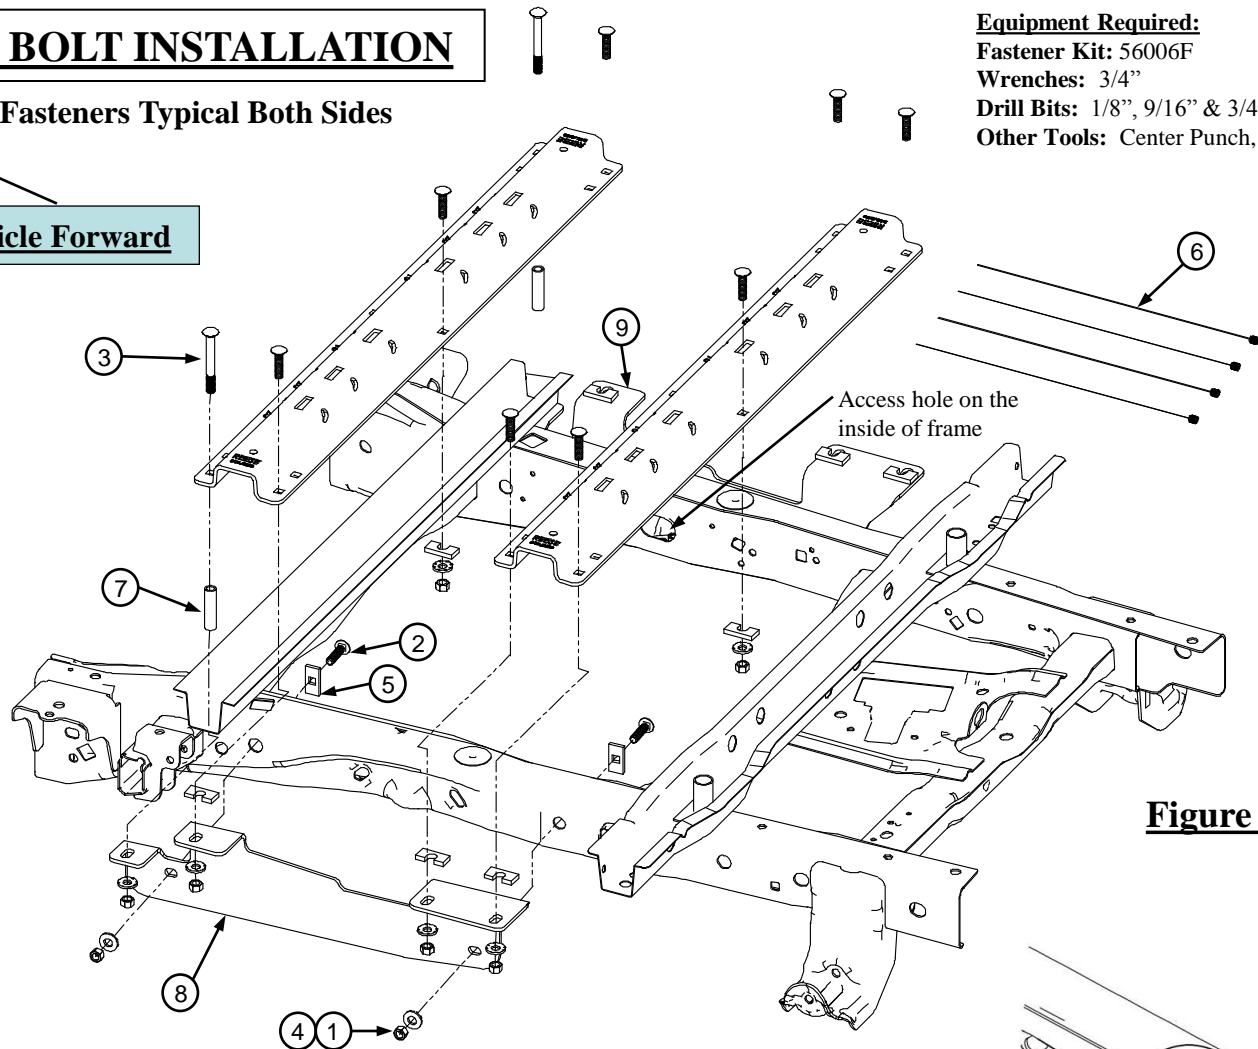
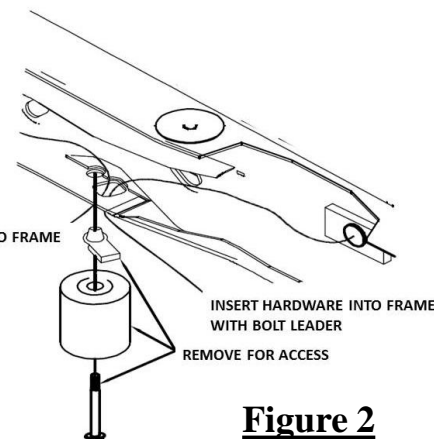

Figure 1
Figure 2
When installing to Figure 1 & 3, during drilling protect the fuel tank and filler tubes, brake lines and wire harness by placing a piece of metal between the box floor and potential components at risk on the driver's side. This will prevent drilling into these items.
2. If there is no access hole on the inside of the frame see Figure 1. Remove the Axle Bumper bolt, Axle bumper and Multi-Thread U-nut from the under side of the frame on driver side and passenger side of the vehicle and keep the Axle Bumpers and hardware see Figure 2.
5. Loosely install the frame brackets (8) & (9) using the appropriate hardware and tighten hand tight. (See Figure 1)
- Starting with the front mounting hole first, insert the head of the pull wire (6) through the 1 inch diameter mounting hole on the side of the truck frame and out through the 1 inch square access hole in the bottom of the frame or access hole on the inside of frame.
- Slide the block (5) over the head of the bolt leader and attach the 1/2 x 1-1/2 inch bolt (2).
- With the other end of the pull wire (6), thread it through the back side of the frame bracket (8) & (9) and gently pull on the end of the pull wire (6) so that the hardware moves through the frame and into position in the frame bracket.
- Install the 1/2" conical washer (1) and 1/2" nut (4). (hand tighten only)
6. Check that the 1/8 inch drilled holes align with the slots of the frame bracket (8) & (9).
9. Install the 1/2" x 2 inch carriage bolts with the U-shaped spacer to be located in the corrugation between the box and the mounting rail or between box and frame bracket (8) & (9). This insures a metal to metal contact and to prevent crushing the bed corrugation. Attach with spacers, washers, and hex nuts as per the illustrations and tighten snug to keep the mounting rail from moving.